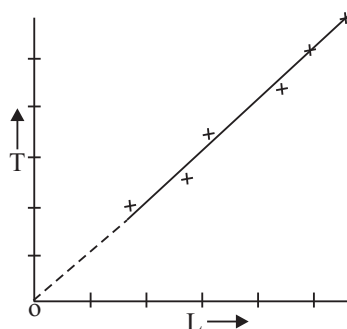

Fig. 4.4
- (vii) Repeat steps (3) to (6) making shorter lengths of the pendulum upto about 20 cm.
- (viii) For each length calculate T^2 and plot a graph between T^2 versus l (Fig 4.4) from this graph find the value of l for $T^2 = 4 \text{ s}^2$